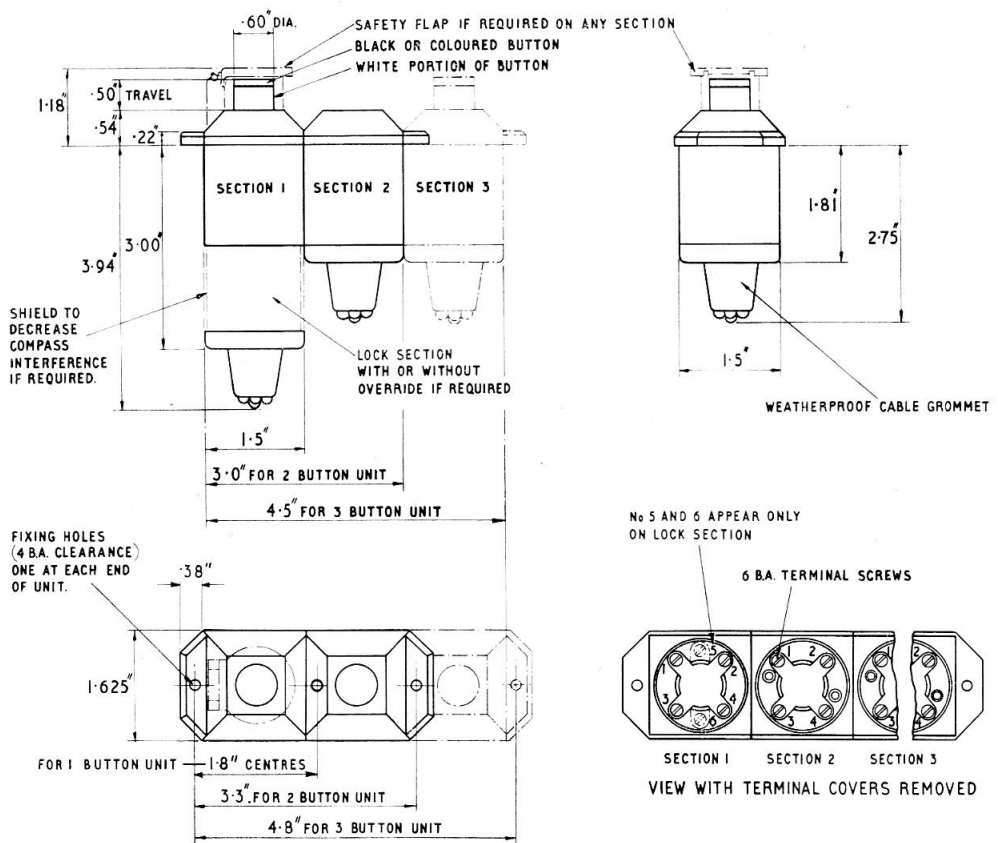
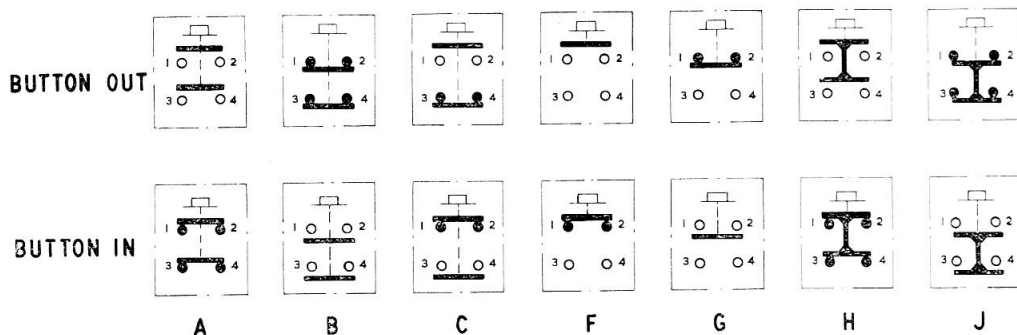

Fig. 4. Installation details
Fig. 5. Contact arrangements (per button)
(fig. 5). The contact rating is 5 amperes at 28V d.c., and minimum internal resistance is ensured by silver contact surfaces.
21. For the terminal connections (contact arrangement fig. 5) the terminal screws fitted to the switch are 6 B.A. and the terminal block recesses for the screw heads will take 0.22 in. diameter crimped terminal tags. No. 5 and 6 terminals appear on lock sections only (fig. 4).
26. Test the buttons in each switch section; see contact arrangements (fig. 5) and switch details (fig. 6).
30. Dependent upon the position of the switch button, measure the insulation resistance between terminals 1, 2, 3 and 4 for non-contact, also between the same terminals and the frame; the readings in each case should not be less than 5 megohms, see figures 5 and 6 for contact arrangements and switch details.